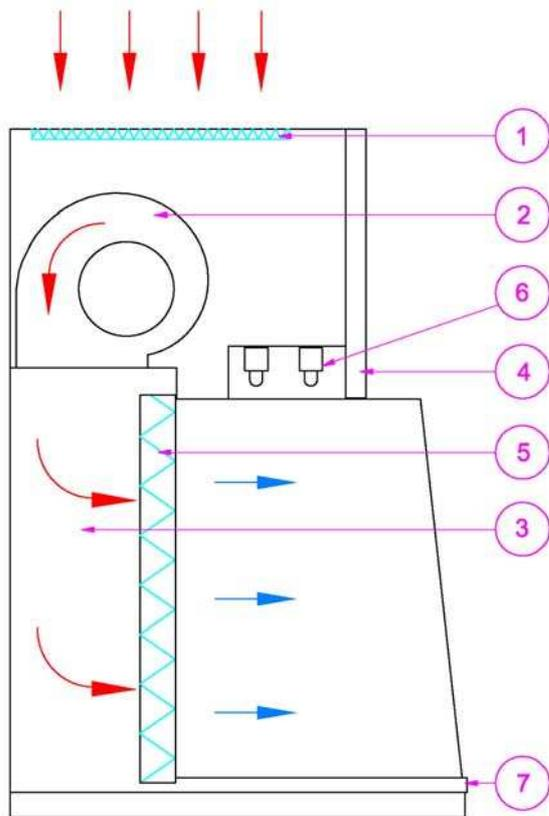

Figure 2 Sectional view CLF
Behind the front panel (Figure 2, Pos 4) a number of electrical components are mounted.
The workroom contains a white laminated wooden or stainless steel (304) worktop (Figure 2, Pos 7).
The plenum-construction (Figure 2, Pos 3) equalizes the air through the crossflow filter.
The crossflow HEPA-filter* (Figure 2, Pos 5) has a very high efficiency: Class H14 in accordance with EN1822. After assembling, each filter will be tested separately. Through the service panel on the back the crossflow filter can be reached.
The pre-filter (Figure 2, Pos 1) is a filter in the class G3 accordance with EN779. Furthermore the pre-filter will enhance the life span of the HEPA-filter significantly.
The electronics (Figure 2, Pos 4) consists of:
The operating panel (Figure 3, Figure 2, Pos 4) consist of:
The Fluorescent-Lighting (Figure 2, Pos 6) is mounted in the Light unit.
The electric driven double suction fan (Figure 2, Pos 2) is maintenance-free.